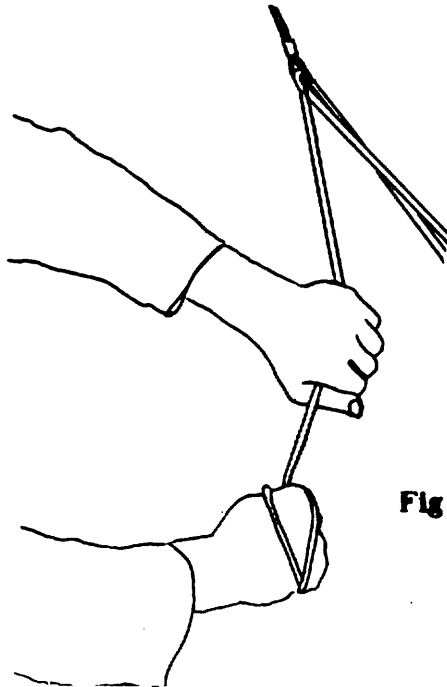

Fig 24
15) Wrap the leech line around your right hand, and push on the line with your left hand while pulling down with your right. (fig 24) This will allow you to pull the crossbar center back until the side wire loop becomes tight. Insert the straight tensioned portion of the leech line into the channel in the the black plastic loop cleat, and allow the cleat to capture the line. Insert the bolt through the hole in the keel,